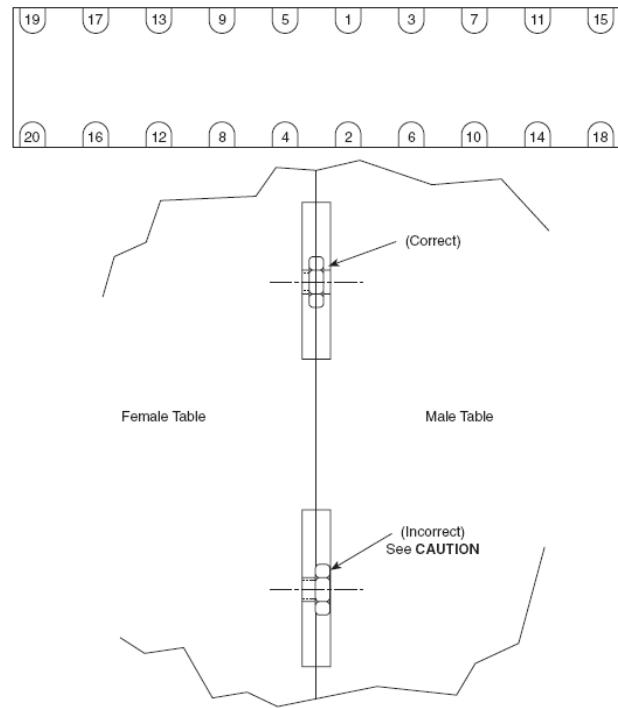

Figure 13—Double Bolt Tightening Sequence
10. When all bolts are snug, apply a final torque of 60 pound-feet (80 N-M) to all bolts using the sequence shown in Figure 13.